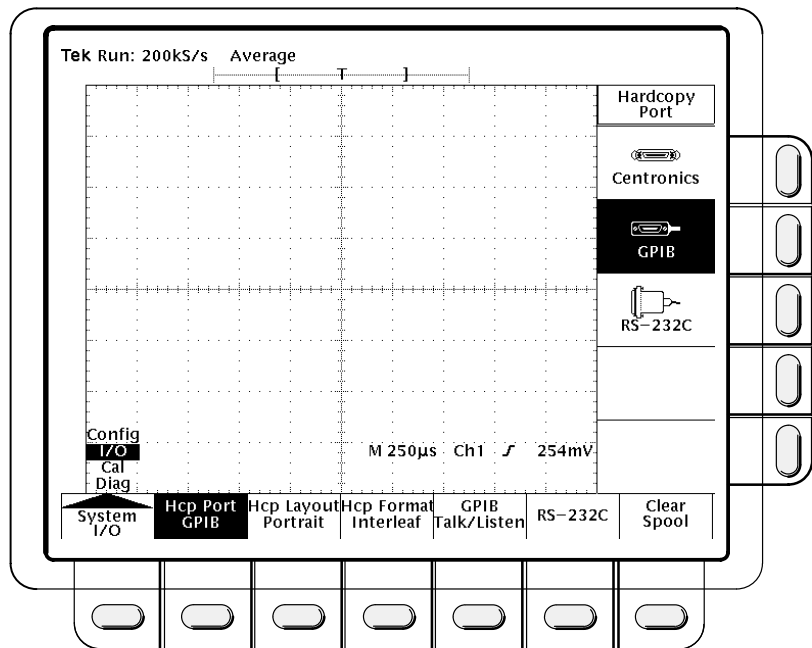

Figure 3-28: The System I/O Menu
2. Repeatedly press the leftmost main menu button until **I/O** is highlighted in the pop-up. This activates the system I/O menu, shown in Figure 3-28.